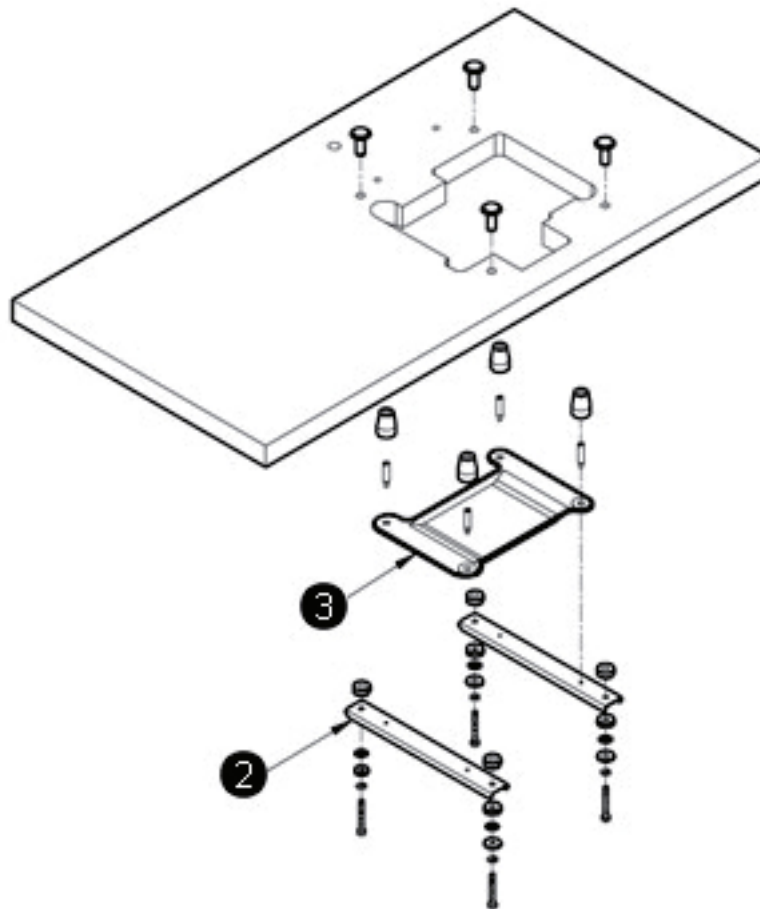

Figure 1
- Install the rubber cushion and the rest board in sequence as the attached table cut-out drawing and the part lists. In case of the semi-submerged type installation, the distance from the surface of the needle plate to the surface of the table is 100 mm, whereas the fully-submerged type installation is only 5 mm. Figure 1 shows a semi-submerged table top.